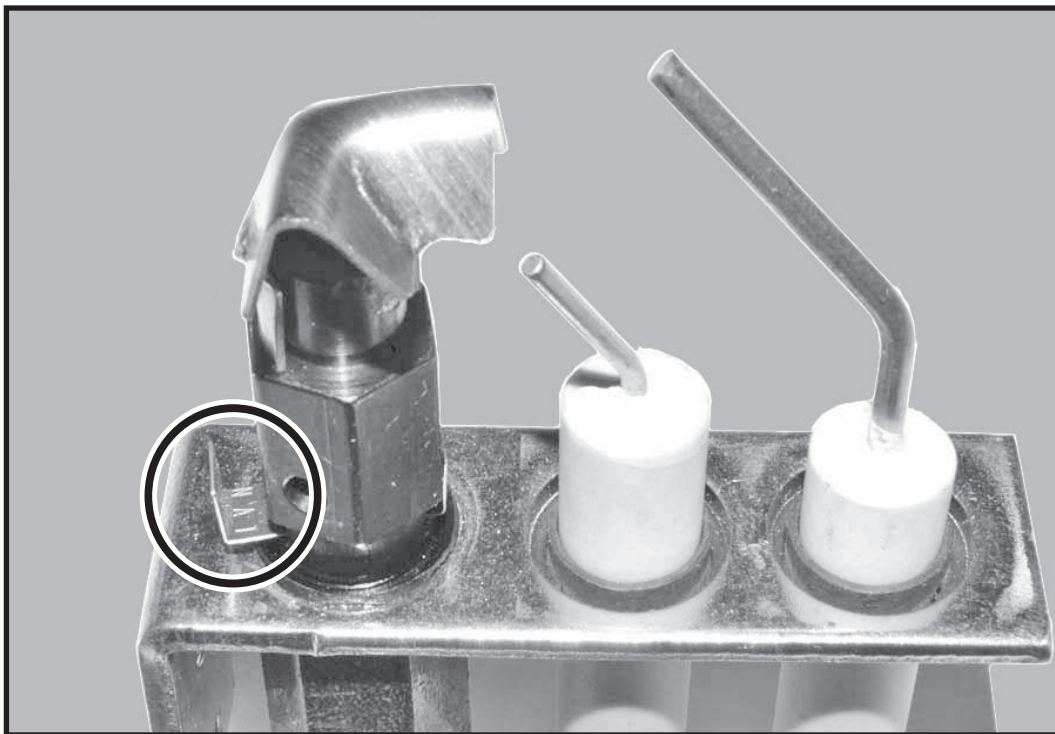
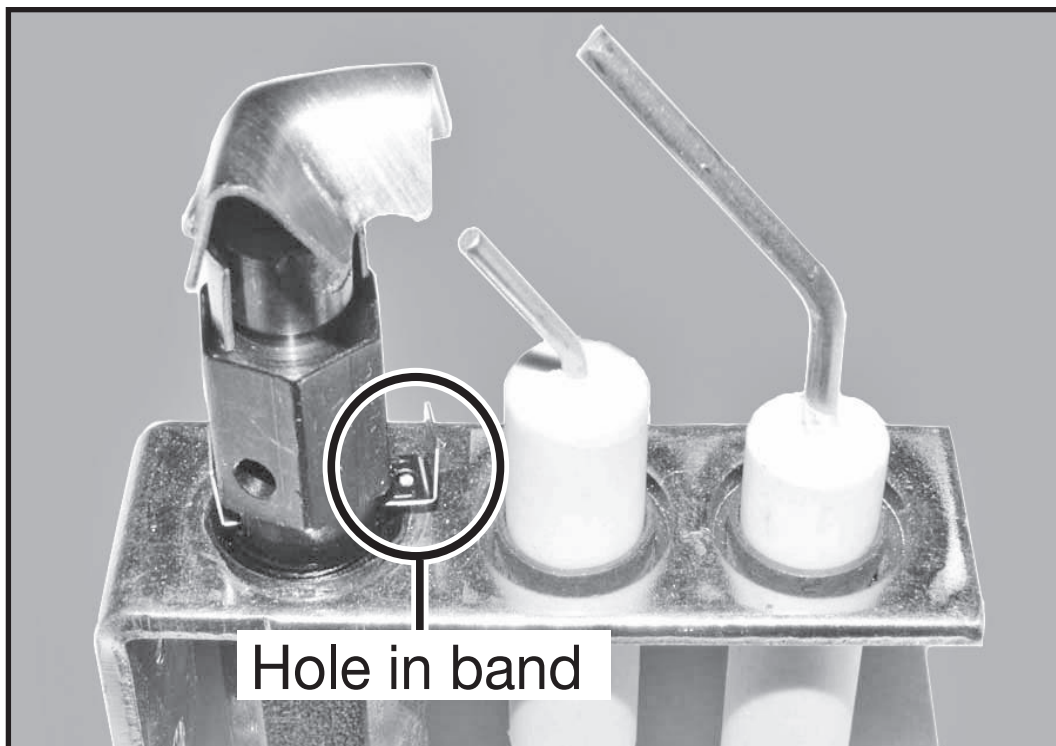

Figure 26: Band in natural gas position.
Figure 27: Band in liquid propane position.
6. Slide the pilot adjustment band over and ensure that the hole in the orifice band is showing. Figure 26 indicates that the pilot is in the Natural Gas position. Figure 27 indicates that the pilot is in the Propane Gas position.